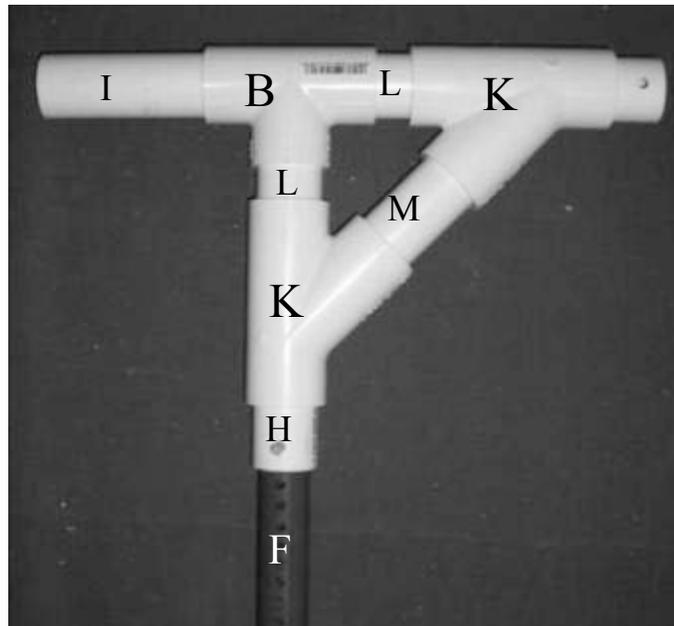

FIGURE 16 – Step 12 – Joining Side Frame to Rear Frame.
**Step 12.** Use a clevis pin or dowel rod to align the drilled hole in Part H of the side frame structure created in Step 8 with Part F as shown in Figure 16.